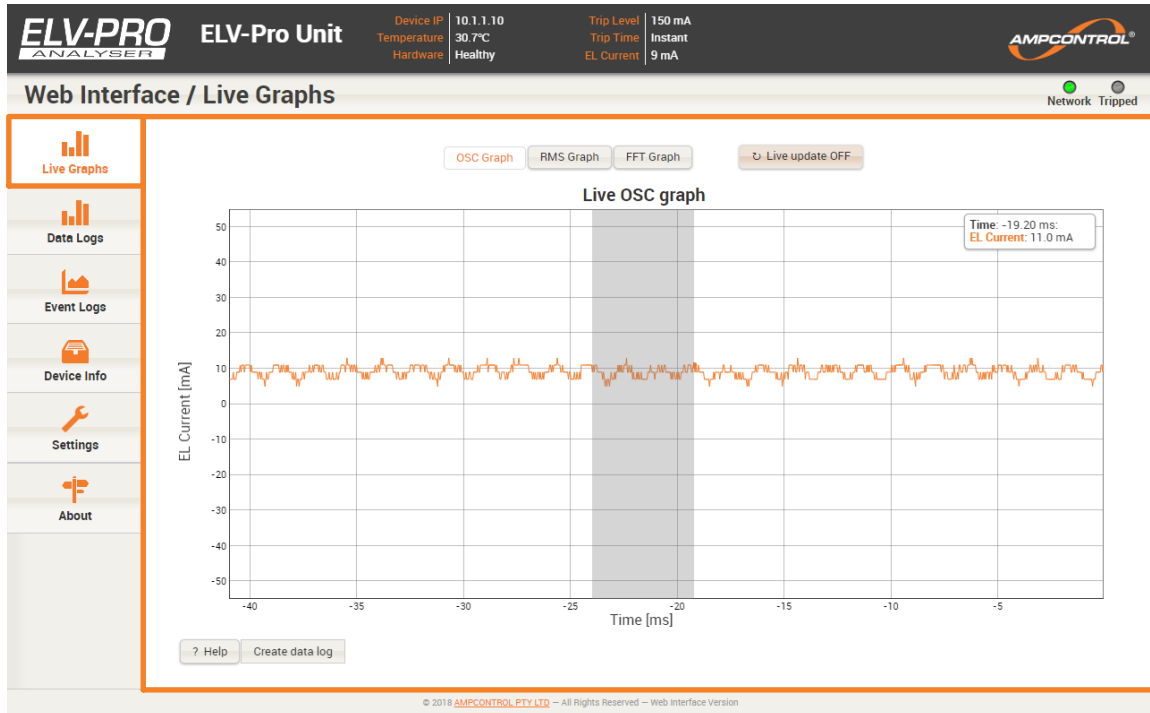

Figure 6-14: ELV-PRO Web Interface - Interactive Graph Navigation
- To zoom in, click on the graph and drag either horizontally (as shown in Figure 6-14) or vertically. Alternatively, for touchscreen devices pinch out to zoom in.